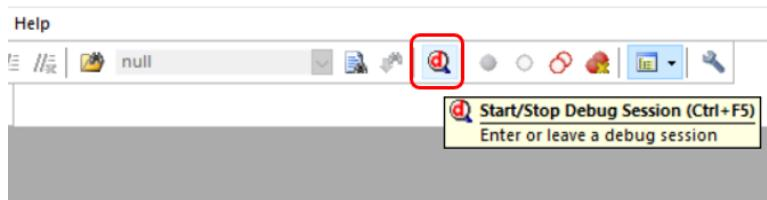

Figure 8.18: Keil IDE: Debug Button
2. Press the “debug” button to bring up the debugger interface (See Figure 8.18).
5. To exit the debugging session, press the “debug” button again (see Figure 8.18).